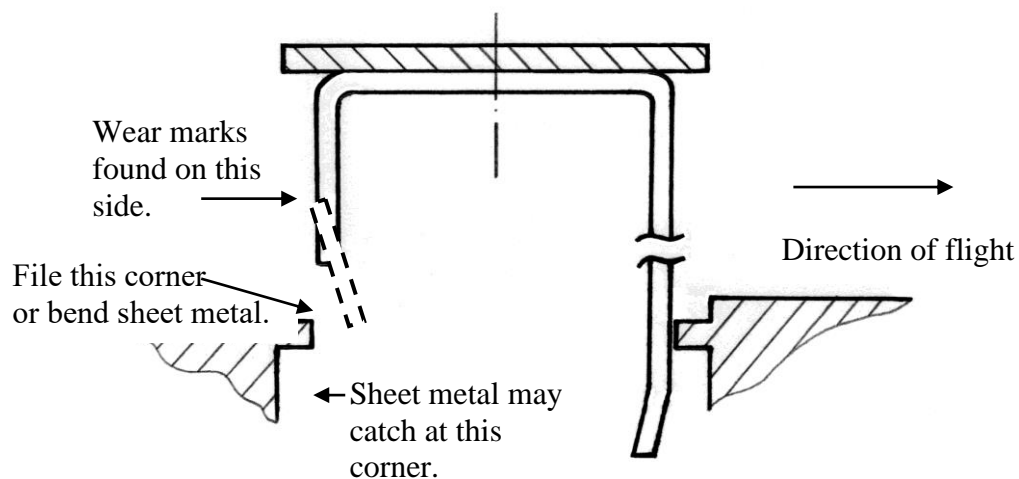

FIGURE 2. POSSIBLE AIR BRAKE JAMMING
3. Scratch marks on the backside of the airbrakes were found on two Standard Jantars (1 and 3). With only little force it was possible to jam the airbrakes when they were extended. So far no incident has been reported but it is strongly recommended to check the airbrakes to prevent possible jamming and perform corrective actions if required (ie. Bevel (file) the corner or slightly bend the sheet metal). See figure 2.